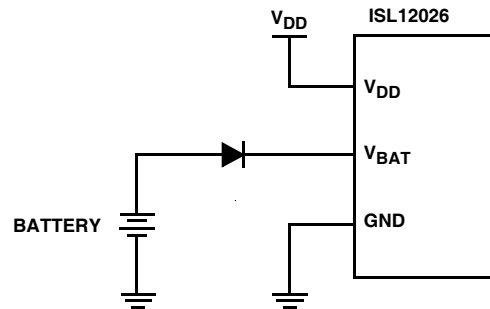

FIGURE 2. PROTECTION CIRCUIT WITH AN EXTERNAL DIODE)
protection in the event that the internal MOSFET and series resistors should fail. Figure 2 shows the actual circuit with the external protection diode. (Note that a high value series resistor would provide similar protection, but would limit normal operating range.)
- Intersil devices that require one diode in series (Figure 2 on page 1) with the  $V_{\text{BAT}}$  pin for UL requirements: ISL1208, ISL1209, ISL1218, ISL1219, ISL1220, ISL1221, ISL12020, ISL12020M, ISL12022, ISL12022M, ISL12024, ISL12025, ISL12026, ISL12027, ISL12028, ISL12029.